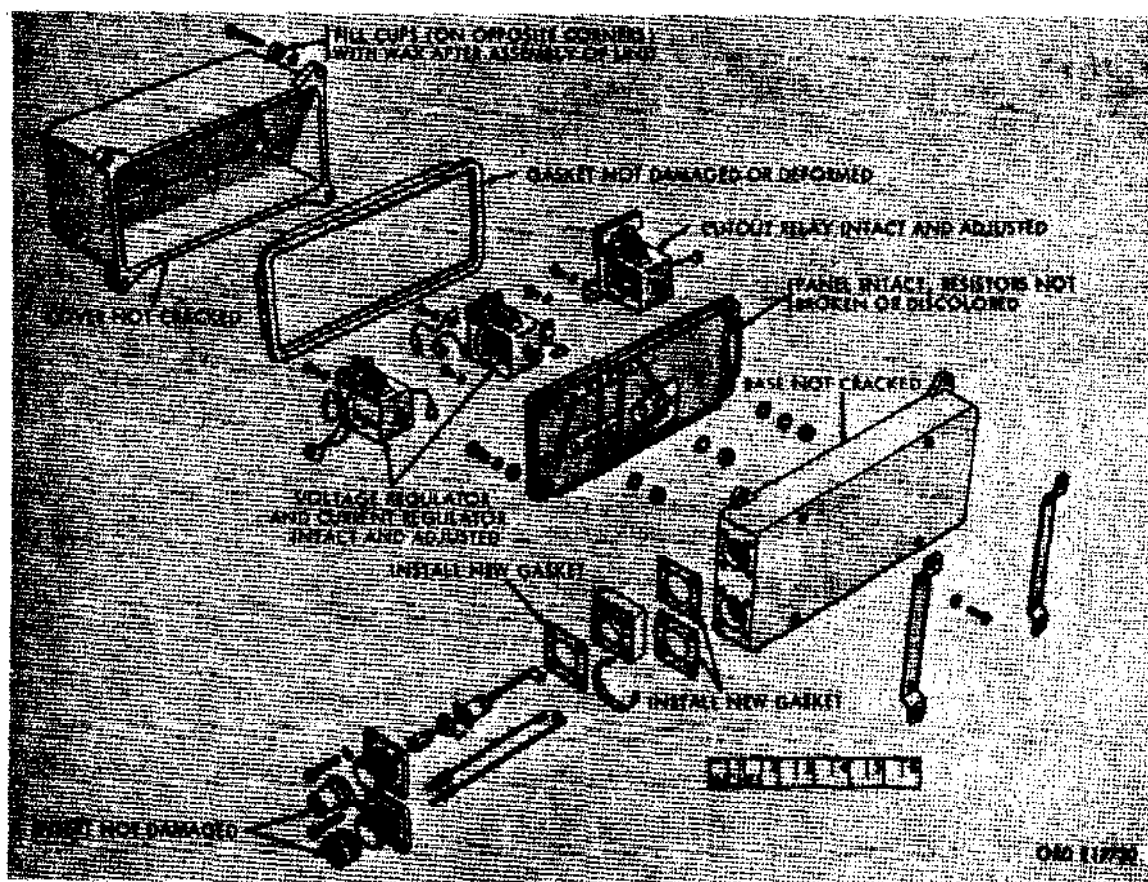

Figure 30. Generator regulator inspection points
(2) Cleaning, inspection and repair. Use procedures shown in TM 9-8627 and inspect components of the voltage regulator shown in figure 30.
(3) Assembly. Assemble generator regulator parts in reverse order of disassembly, proceeding from step 13 through step 1.
(4) Adjustment.